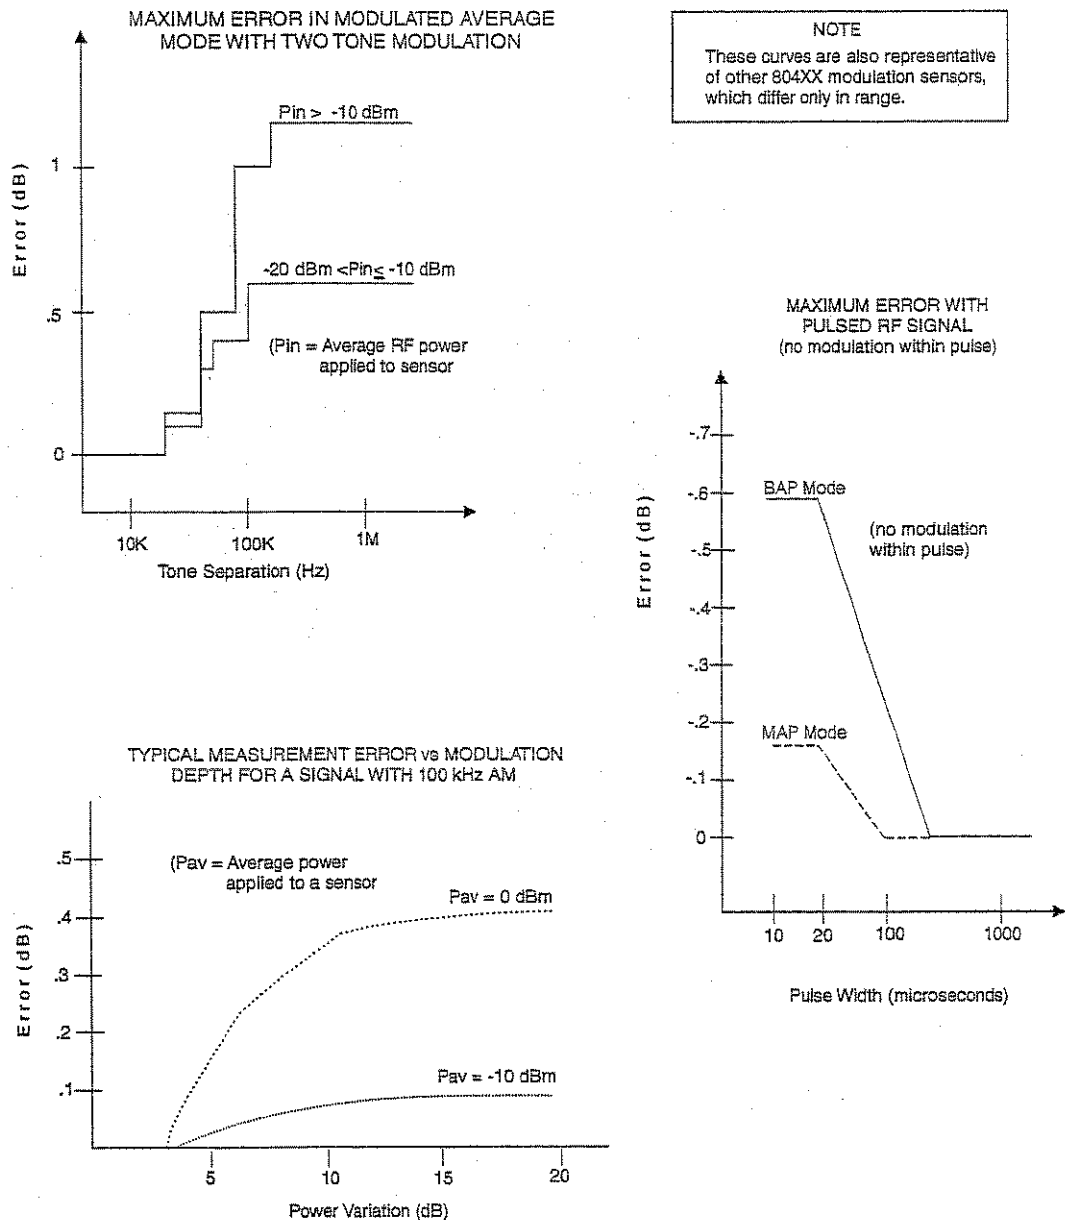

Figure B-1: 80401A Modulation-Related Uncertainty
High Power (1, 5, 25, and 50 Watt) and Low VSWR sensors are also available for use with the 8540C Power Meters. Table B-1 lists the Giga-tronics power sensors used with the 8540C. Refer to applicable notes on page B-4. See Figures B-1 or B-2 for modulation-induced measurement uncertainty.
2. See Figure B-1 or B-2 for modulation-related uncertainty.